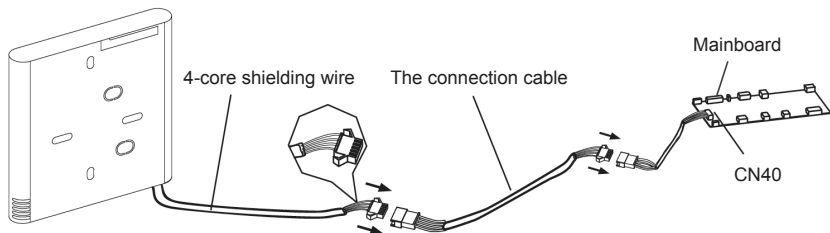

Fig 3-3
- Connect the female joint of the wires group from the mainboard with the male joint of the connective wires group. (See Fig 3.3).
- Connect the other side of the connective wires group with the male joint of the wires group leads from the wire controller. (See Fig 3-3).